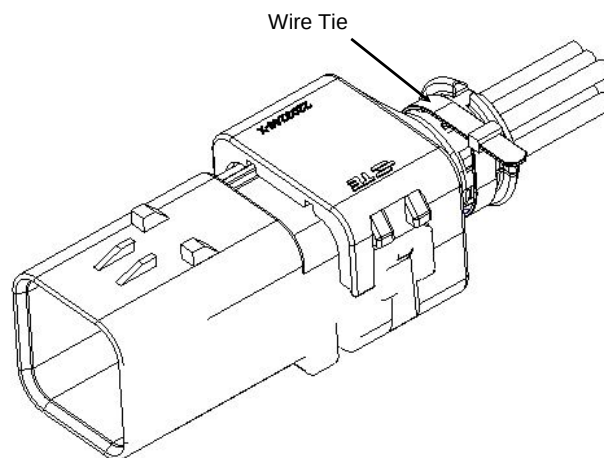

Figure 6
8. For additional strength, a wire tie may be applied at the wire exit. Figure 6 shows the wire tie wrapped around the circumference of the wire exit, clamping the two halves of the backshell together.
6. If a smooth exit elbow is used, a wire tie may be applied at the wire exit for additional strength, as is done for the smooth exit backshells in step 8 of section 3.A. The wire tie can be wrapped around the circumference of the wire exit, clamping the two halves of the elbow together, similar to what is shown in Figure 6.